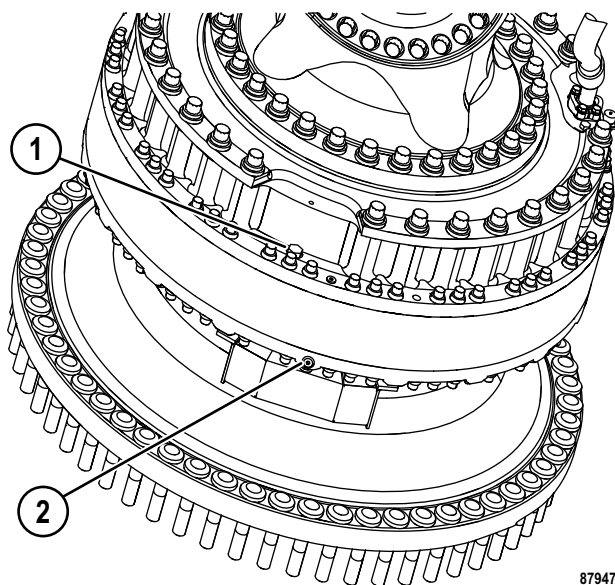

FIGURE 50-57. FRONT BRAKE DRAIN PLUGS
9. Remove drain plugs (1, Figure 50-57) and (2). Allow the oil to drain from the brake housing and catchment tank into a suitable container.